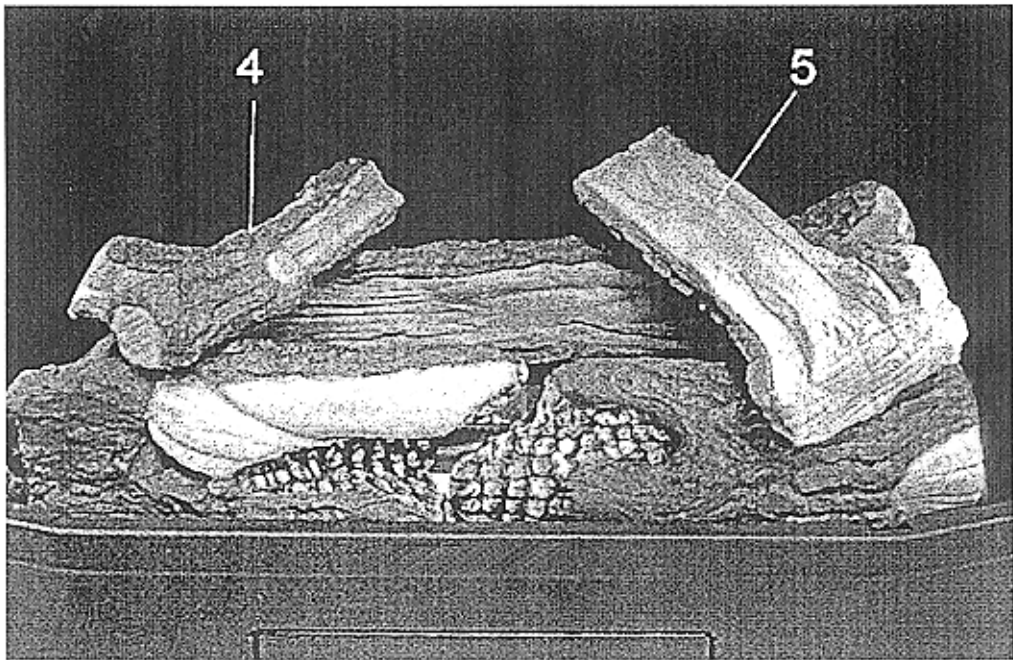

Figure 4
STEP 3: Put log5, on top of log1 and log3 as shown in the drawing (See Figure 4).